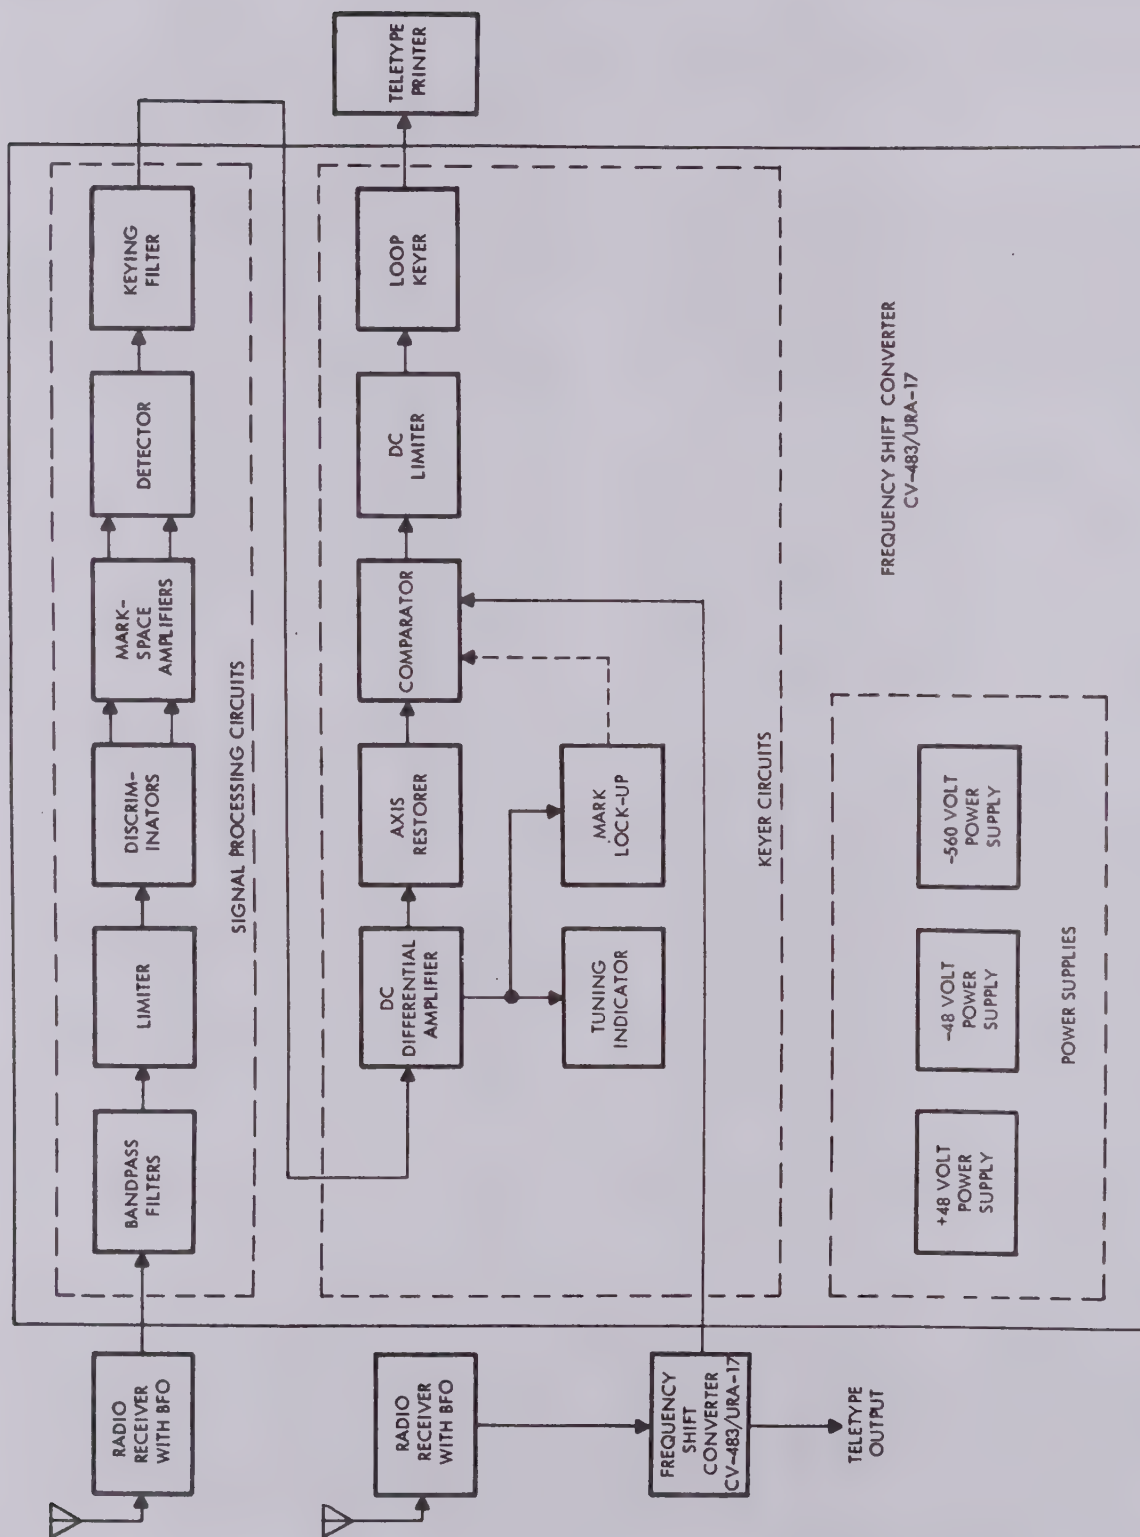

Figure 4-2. Comparator-Converter Group AN/URA-17, Functional Block Diagram
e. FUNCTIONAL BLOCK DIAGRAM. - Figure 4-2 is a block diagram representing the principal functions of the circuits of the complete equipment. Two receivers and a teletype printer are also shown, connected for diversity operation. The two converters are identical and one is shown as a single block for simplicity. The receivers may be operating in space diversity or frequency diversity on any radio frequency within their ranges.
a. GENERAL. - Each converter is a single unit, with the filters and transformers mounted around the sides of printed circuit boards. In the following paragraphs, the converter is covered as three functional sections: 1) signal processing circuits, 2) keyer circuits, and 3) power supplies (see figure 4-2). Waveforms at significant test points are illustrated in table 5-5. Refer to the overall schematic, figure 6-5, during the detailed theory which follows.
(6) MARK LOCK-UP. - The mark lock-up provides a strong, artificial mark signal to the dc limiter during traffic interruptions. If a deep fade occurred or if the signal-to-noise ratio were very low, noise pulses could cancel the small positive bias on the dc limiter input, provided by R56 and R57, and allow garbled copy to be printed. A steady mark signal is transmitted between messages. This steady mark signal charges C17 in the axis restorer allowing no signal to be applied to the dc limiter. The mark lock-up, Q11, Q12, and circuit, provides a bypass around the axis restorer (shown as dashed line in figure 4-2) during these signal interruptions.